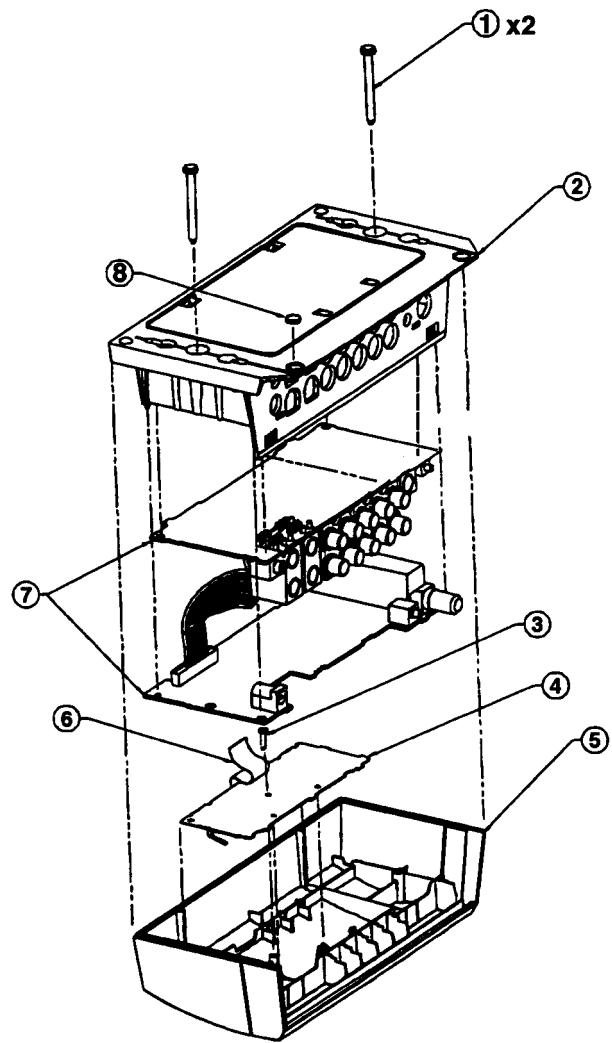

Figure 3. Multi-Room Interface Assembly
| <p>Multi-Room Interface (MRI)</p> <p>Note: Refer to figure 3 for the following procedures.</p> <p>1. Top Cover Removal</p> <p>1.1 Place the unit upside down and remove the two screws (1) securing the top cover to the unit.</p> <p>1.2 Turn the unit over and remove the top cover (5).</p> <p>Note: The wire dressing of the RDL harness is very critical for transmitting the Radio Data to the PMC controller.</p> <p>2. Top Cover Replacement</p> <p>2.1 Place the top cover (5) onto the unit. Make sure the cable is folded neatly and not pinched.</p> <p>2.2 Secure the top cover (5) to the unit using the two screws (1).</p> <p>3. Tuner and Control PCB Removal</p> <p>3.1 Perform procedure 1.</p> <p>3.2 Lift the Tuner PCB (7) (top PCB) up slightly and remove from the unit.</p> <p>3.3 Release the control PCB (7) (bottom PCB) from the two clips that secure it in place.</p> <p>3.4 Slide the PCB assembly out of the bottom cover.</p> | <p>4. Tuner and Control PCB Replacement</p> <p>4.1 Place the control PCB (7) into the bottom cover (2) and clip it into place.</p> <p>4.2 Place the tuner PCB (7) into the bottom cover (2) and align it onto the location pins.</p> <p>4.3 Perform procedure 2.</p> <p>5. Radio Data Link (RDL) PCB Removal</p> <p>5.1 Perform procedure 1.</p> <p>5.2 Remove the one screw (3) securing the RDL PCB (4) to the top cover (5).</p> <p>5.3 Remove the cable (6) from the PCB.</p> <p>6. Radio Data Link PCB Replacement</p> <p>6.1 Connect the cable (6) to the RDL PCB (4).</p> <p>6.2 Secure the RDL PCB (4) to the top cover (5).</p> <p>6.3 Perform procedure 2.</p> |